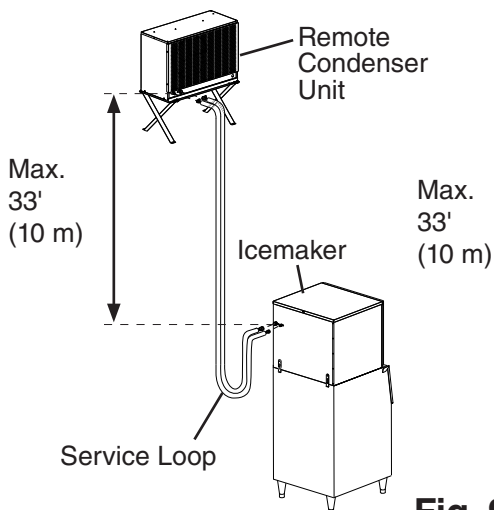

Fig. 9
- The maximum vertical distance between the remote condenser unit and the icemaker is 33' (10 m) above or 10' (3 m) below the icemaker. These distances are measured fitting to fitting. See Fig. 9.
- 1) Route the factory line set or appropriate size copper tubing. When field fabricating, insulate the copper tubes separately. Leave a service loop behind the icemaker to allow the icemaker to be pulled out for service. See Fig. 9.